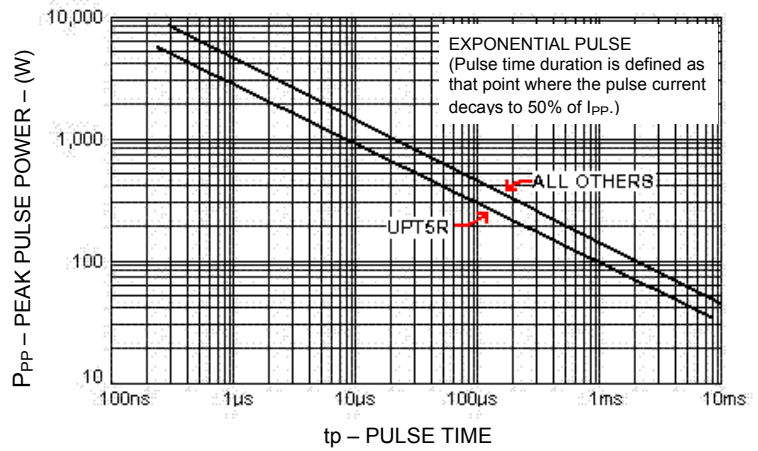

FIGURE 2
- Peak Pulse Power at 10/1000 μs (See Figure 2).